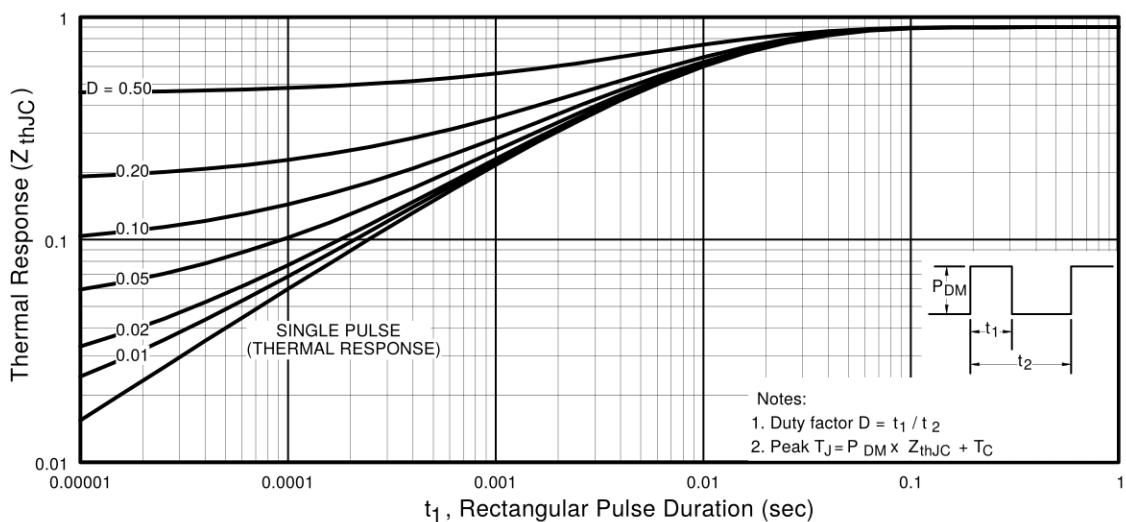

Fig 11. Maximum Effective Transient Thermal Impedance, Junction-to-Case
① Repetitive rating; pulse width limited by max. junction temperature. (See fig. 11)
④ Pulse width $\leq 300\mu\text{s}$; duty cycle $\leq 2\%$.
② Starting $T_J = 25^\circ\text{C}$, $L = 194\mu\text{H}$